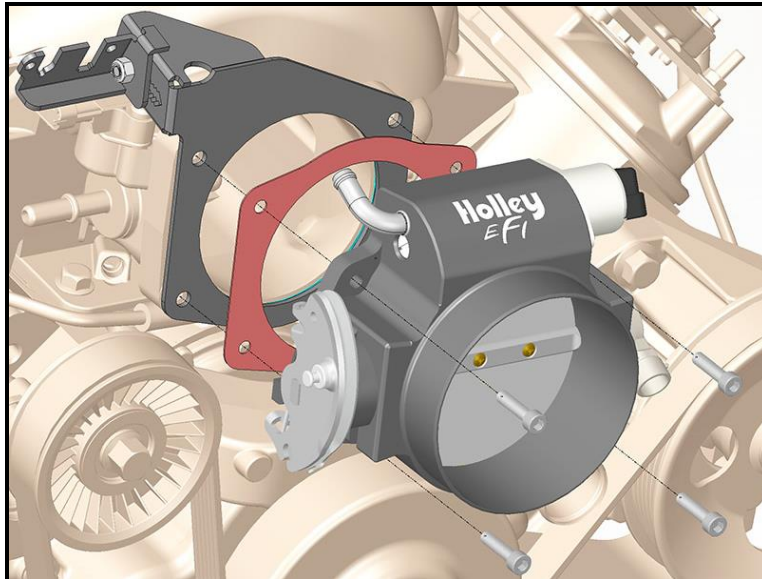

Figure 3
3. Use the supplied gasket between the bracket plate and throttle body (**Figure 3**).